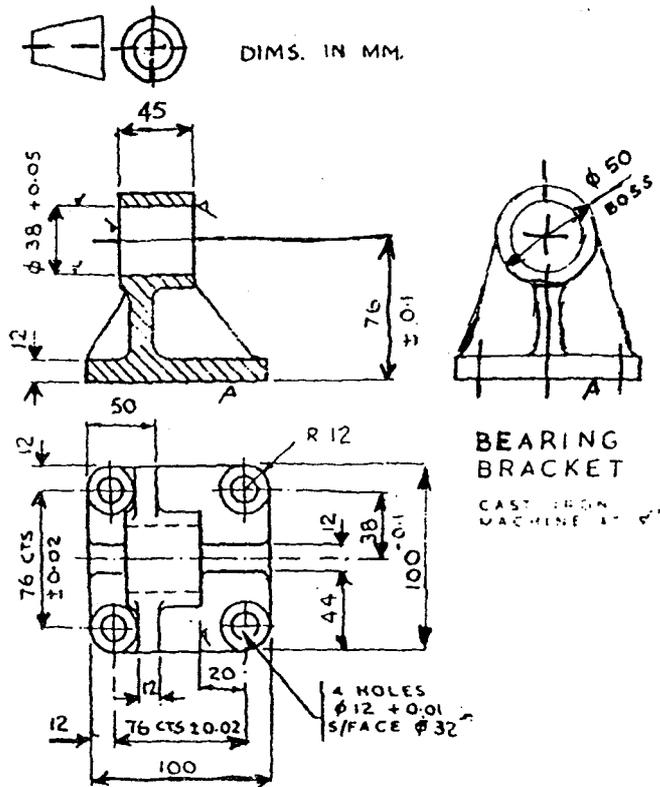

Fig. 3
12. (a) Design and draw two views of a jig/fixture for machining the boss of size $\phi 50$ on the bearing bracket shown in Fig. 3.